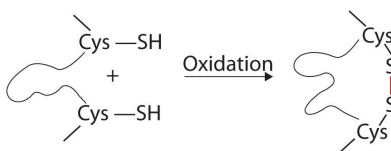

Figure 28.3p. Formation of disulfide linkages between two cystine amino acid units (credit: Intro Chem: GOB \(v. 1.0\), CC BY-NC-SA 3.0).
3. **Disulfide linkages.** Two cysteine amino acid units may be brought close together as the protein molecule folds. Subsequent oxidation and linkage of the sulfur atoms in the highly reactive sulfhydryl (SH) groups leads to the formation of cystine (part (c) of Figure 28.3o. and figure 28.3p.). Intrachain disulfide linkages are found in many proteins, including insulin (yellow bars in Figure 28.3k.) and have a strong stabilizing effect on the tertiary structure.